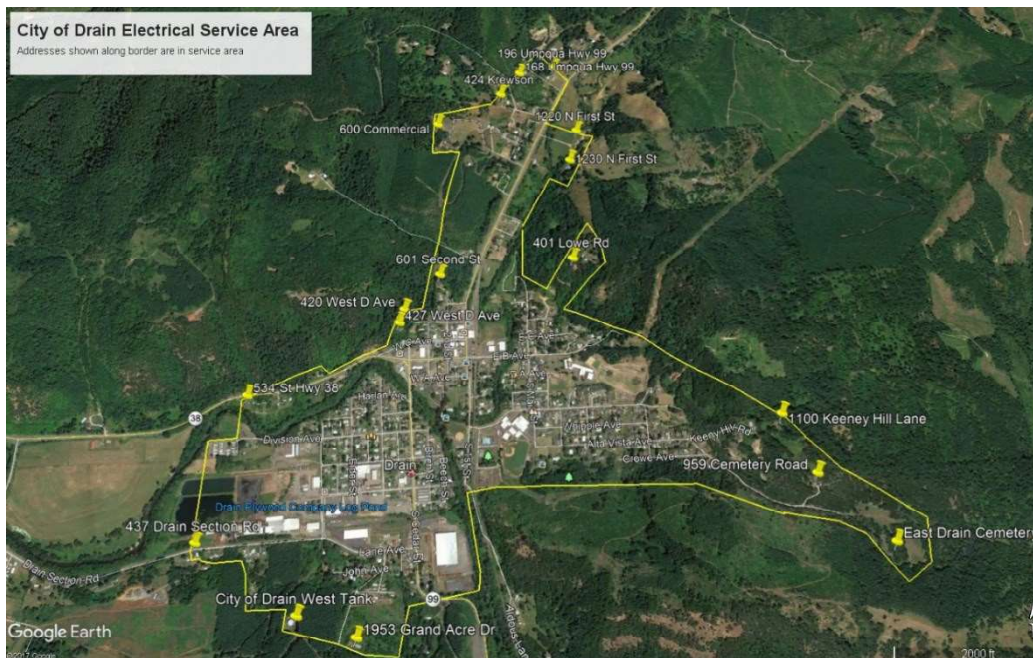
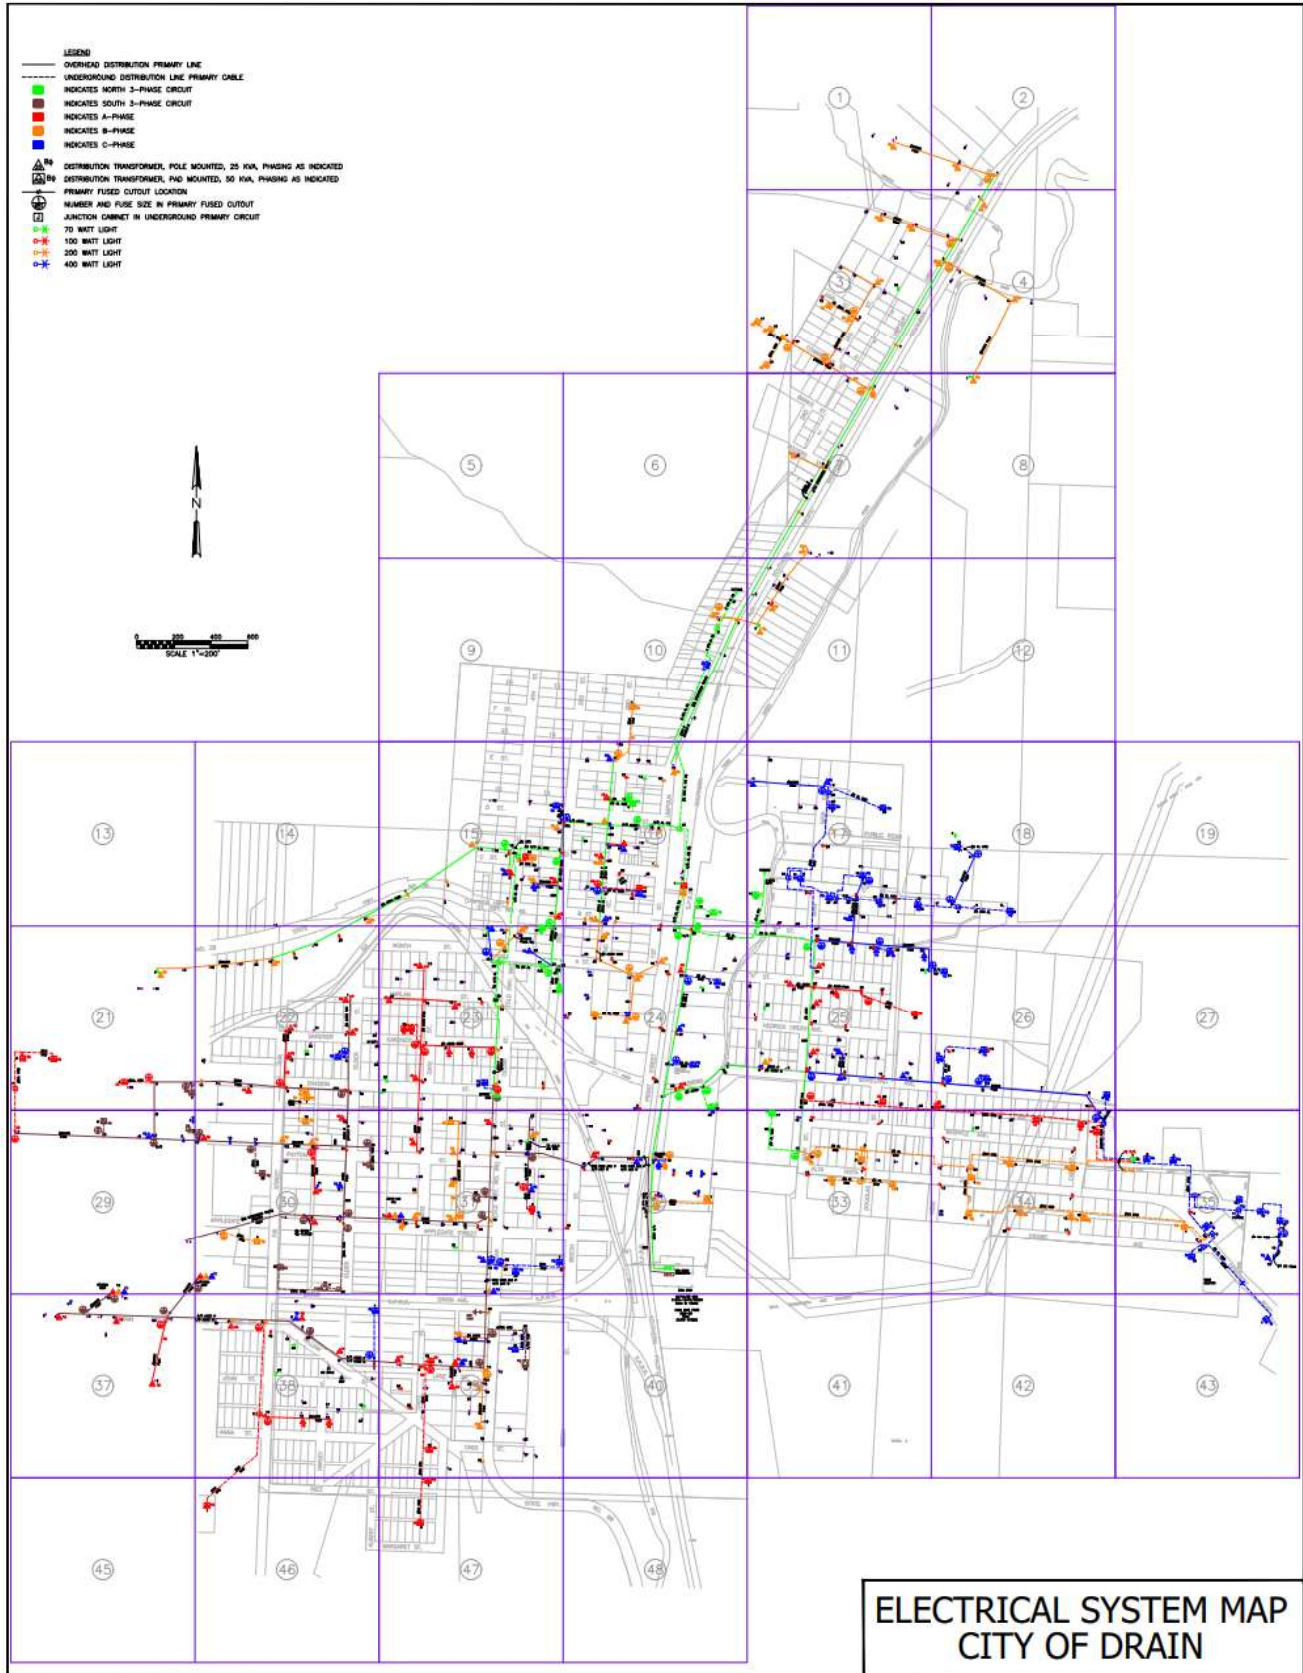
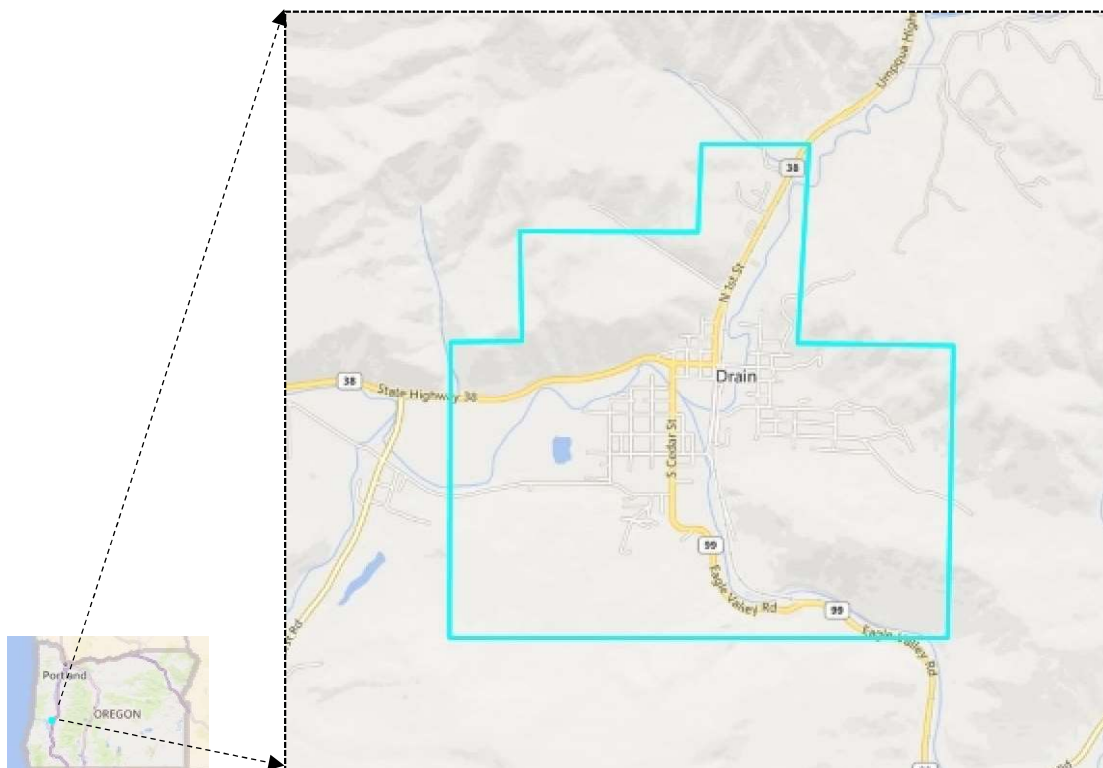

Figure 1: City of Drain Service Territory
Figure 2: City of Drain Electrical Feeder Map
Figure 3: City of Drain Wildfire Mitigation Plan – Area of Interest
The City's Public Works department is headquartered at City Hall and includes a shop located at 801 Division Avenue. Both locations are within the City limits. The City distributes electric services within 1 square-mile territory. The service territory and electrical feeder map are shown in Figure 1 and Figure 2. The vast majority of the 719 customers are served within the City limits. The City supplied approximately 16.5 million kWh annual retail electric energy for the year ending December 31, 2021, with a 2021 winter peak demand of 3.53 MW and a summer peak demand of 2.43 MW. The City owns and operates one distribution switch station within the BPA Drain Substation serving two (2) distribution feeder circuits plus one future spare position.
The Oregon Wildfire Risk Explorer (OWRE) is an open-source tool providing useful information for a customized area of interest to support Community Wildfire Protection Plans and other plan and policy developments. Most of the following figures and tables are statistics and illustrations generated for the area highlighted in the box shown in Figure 3. The full report is attached in Appendix A. The focus of this Wildfire Mitigation Plan for the City is primarily the electrical service area, which is mostly an urban area with an irregular shape as shown in Figure 1. Figure 3 covers not only the City's service territory (boxed area) but also its surrounding area within a reasonable distance where wildfires are more likely to occur. The OWRE report provides statistics from the year 2008 to 2019 that can be used to develop an understanding of the wildfire risks within the area of interest.